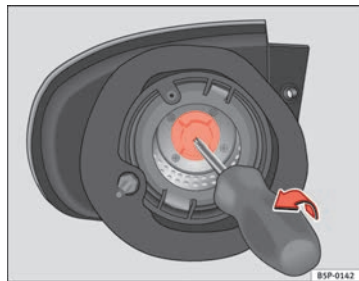

Fig. 193 Turn signal light.
- Pull out the turn signal bulb holder using a screw driver in the direction of the arrow ⇒ fig. 193.